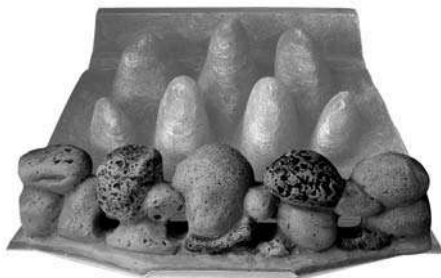

Fig. 70
3. Position the front pebble piece on the front ceramic retainer, making sure that the back edge is pushed up against the front of the burner strip. Ensure that the lugs on the rear of the front pebble are located at either end of the burner strip (Fig. 70).